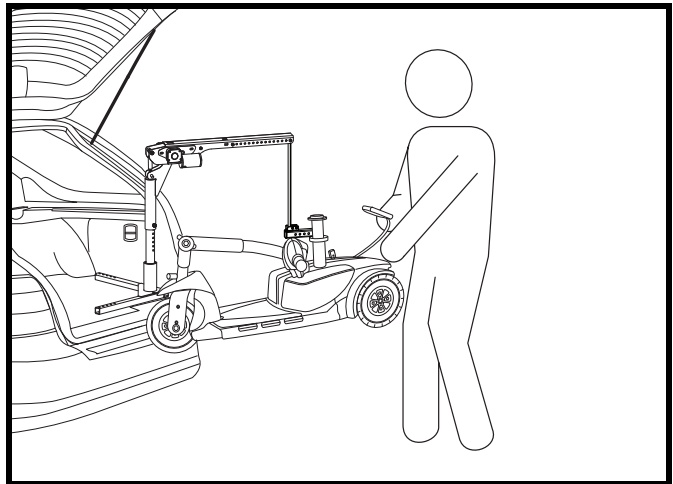

Figure 8. Lifting The Mobility Product
9. Once the mobility product is raised high enough to fit into the vehicle, stop the lift. **See figure 8.**